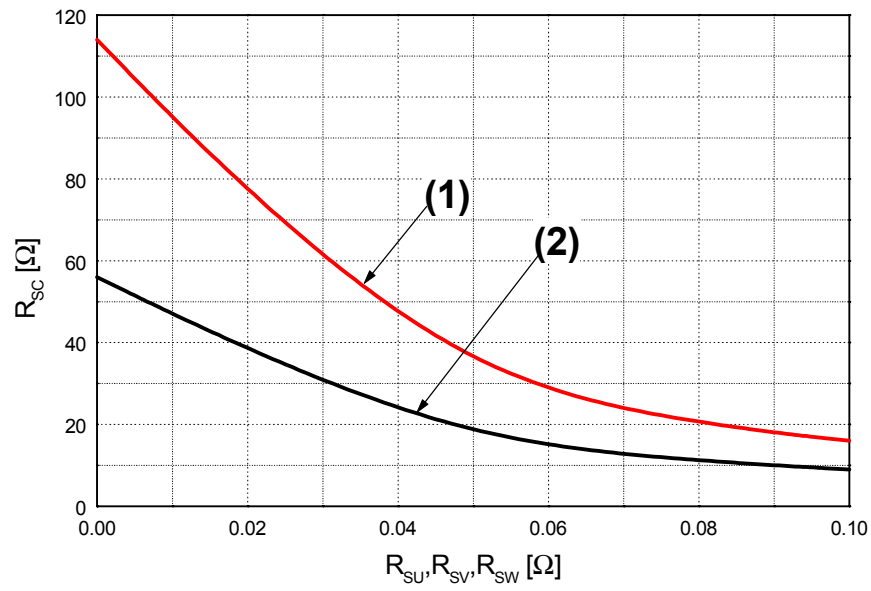

Fig. 6. R_{SC} Variation by change of Shunt Resistors (R_{SU} , R_{SV} , R_{SW}) for Short-Circuit Protection
- Short-circuit current protection is functioning only at the low-sides. It would be recommended that the value of the external sensing resistor (R_{SC}) should be selected around 56 Ω in order to make the SC trip-level of about 22.5A at the shunt resistors (R_{SU}, R_{SV}, R_{SW}) of 0Ω. For the detailed information about the relationship between the external sensing resistor (R_{SC}) and the shunt resistors (R_{SU}, R_{SV}, R_{SW}), please see Fig. 6.